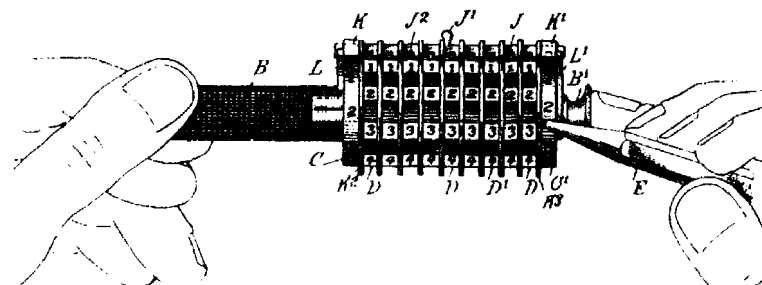

Figure 200
Manufacturer: Midget Sales Company, 60 Van Buren St., Brooklyn. The machine is only used for addition. The left hand holds the handle, and the small finger on the right hand holds the machine steady (as shown in figure 200).⁷¹ The right hand also holds the calculating stylus. In setting up values, the digits on the right or the left edge plate are used. The tip of the adding stylus must be placed in the hollow of these digits (units, tens, hundreds, etc.), which are to be added and left there while the handle is turned with the left hand until it hits the calculating stylus. The other numbers are entered or added in the same way. The sum can be read behind the stop rod *J*. Resetting the machine to zero is done by lifting the stop rod *J* and turning the handle until the small lug of the individual calculating gears presses against the stop rod.
71. Martin actually had figures 200 and 201 reversed; we have corrected the error in this reprint.